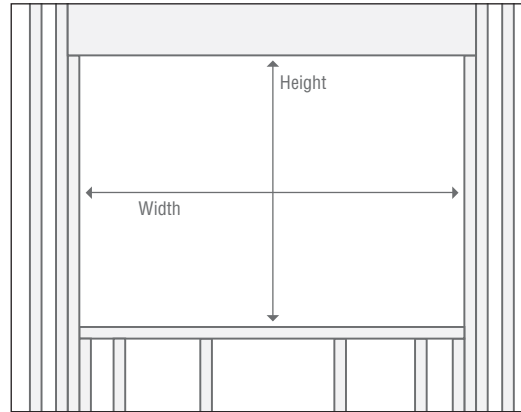

fig. 1
- Check the rough opening dimensions against the units actual frame width and height (for replacement applications perform this step prior to old unit removal). (fig. 1)